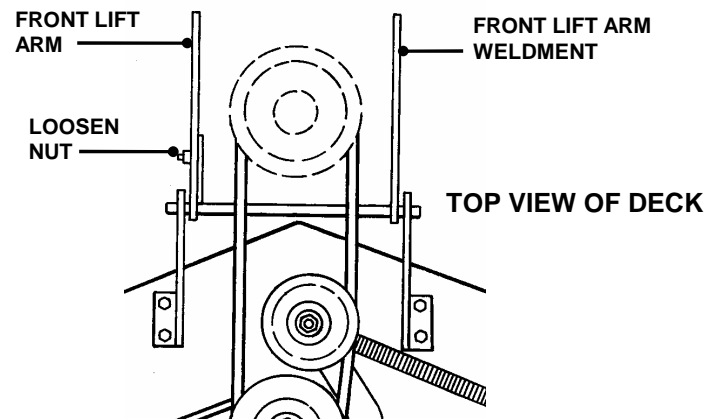

FIGURE 4.6
5. Loosen the bolt and nut that secures the front lift arm weldment to the front lift arm. See Figure 4.6.